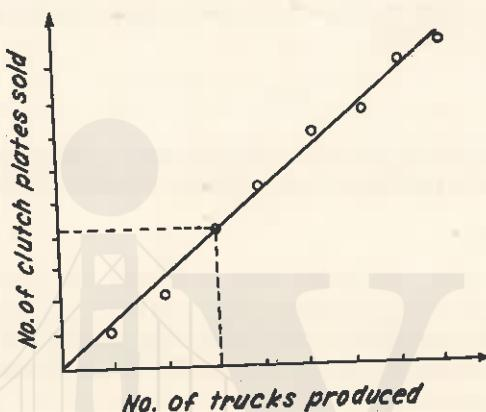

Fig. 7.5. Correlation data.
- This technique is employed when an organisation finds that the sale of its product has a remarkable relationship with the sales of a leading product of another organisation, e.g., sales of clutch plates is correlated with the sales of trucks produced, (Fig. 7.5).
Such past data when plotted on the graph paper (refer Fig. 7.5) with line of best fit drawn, can predict sales estimate for future.